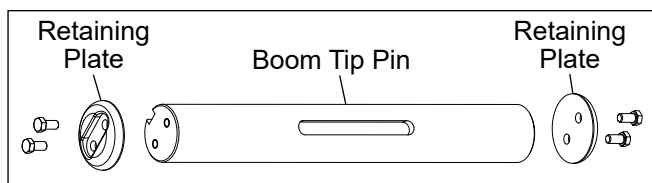

Figure 6.XX — Retaining Plate and Cap Screws
10. Remove and discard the cap screws that secure the retaining plate on the end of the boom tip pin on the platform side (refer to Figure 6.XX). When servicing the boom tip pin or retaining plates, do not reuse the retaining plate cap screws. Once a cap screw is removed, the nylon patch on the threads will be distorted. This distortion may not allow the cap screw to tighten properly if reused. Use new cap screws of the proper length with nylon patch when reinstalling the retaining plate.
13. Remove and discard the cap screws that secure the retaining plate on the end of the jib/winch side of the boom tip pin (refer to Figure 6.XX).